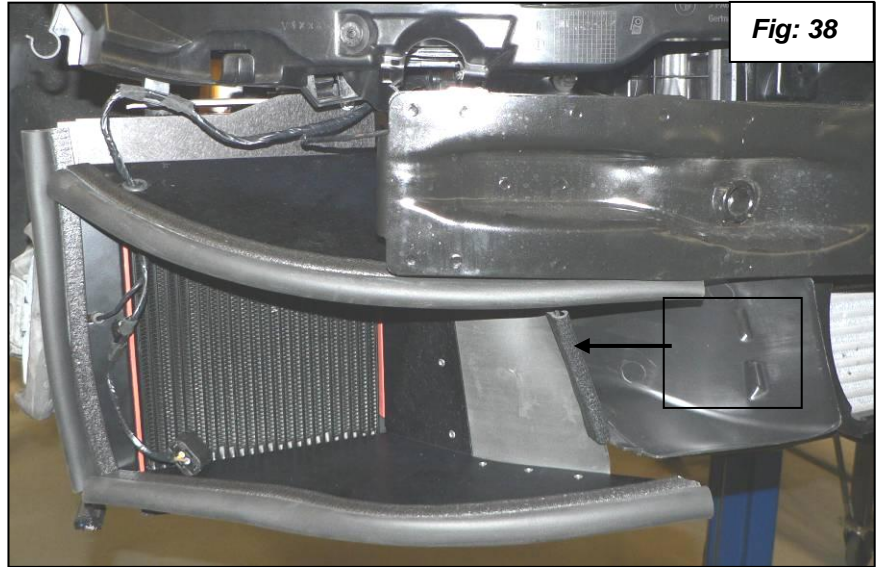

**Fig: 37**
42. When you pull the cooler into the position it will be with the bumper attached the clearance should be flush. See **figure 37**.